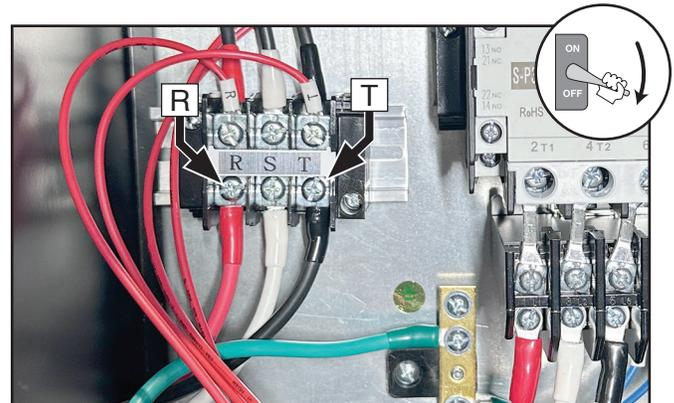

Figure 66. Location of R and T terminals.
3. Swap wires connected to **R** and **T** terminals (see **Figure 66**).